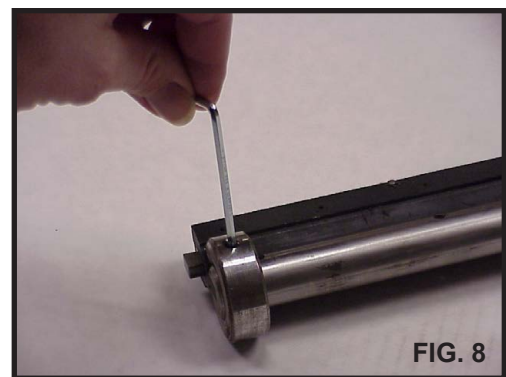

FIG. 8
- A. Remove collar by loosening the set screw and sliding it off the end of the comb. (See Fig. 8).